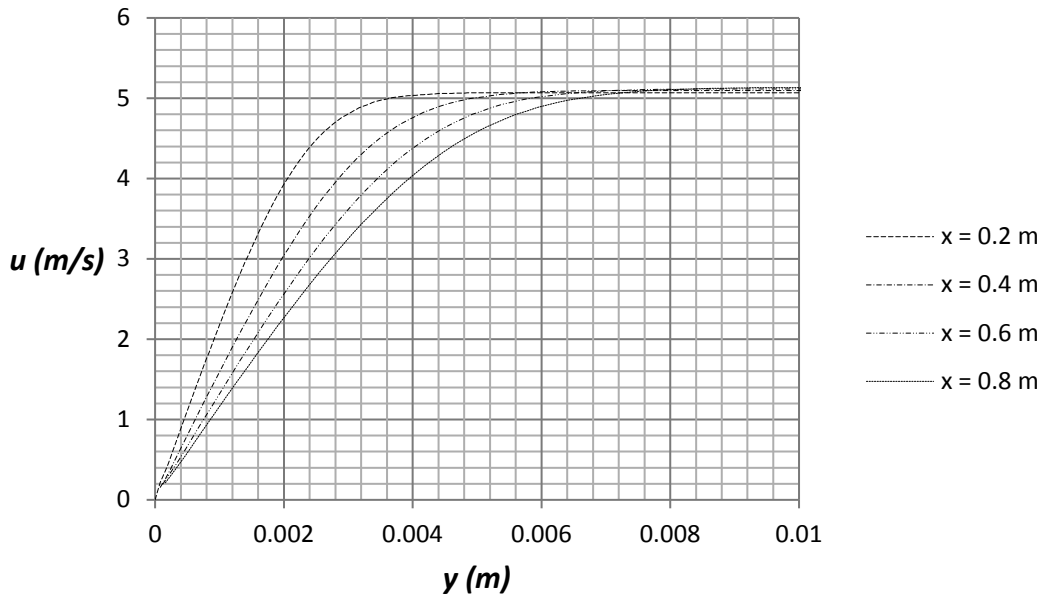
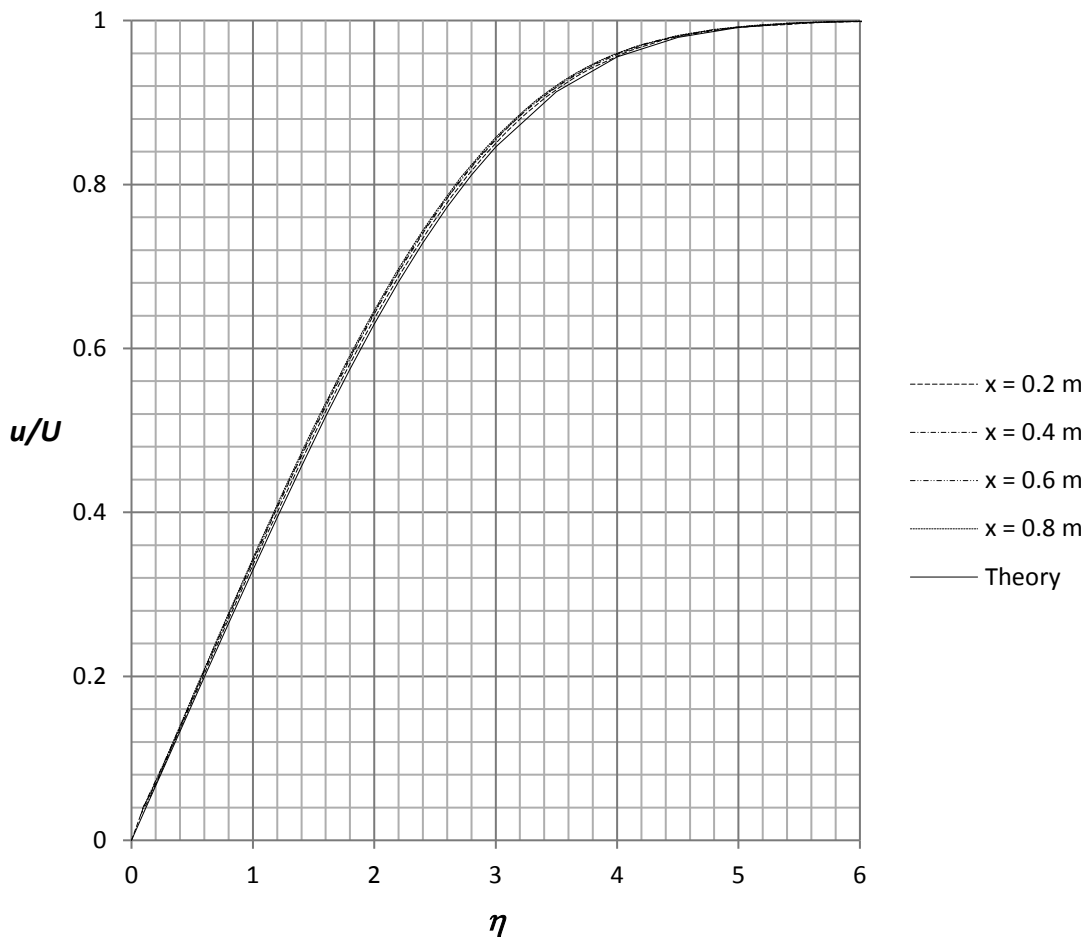

Figure 2.24c) Boundary layer velocity profiles on a flat plate at different streamwise positions
Figure 2.25a) Velocity profiles in comparison with the theoretical Blasius profile (full line)
23. Place the file “**graph 2.24c).xlsm**” on the desktop. This file and the other exercise files are available for download at the *SDC Publications* website. Click on the **FeatureManager design tree**. Click on the sketch **x = 0.2, 0.4, 0.6, 0.8 m**. Click on the  **Flow Simulation analysis tree** tab. Right click **XY Plot** and select **Insert...**. Check the **Velocity (X)** box. Open the **Resolution** portion of the **XY Plot** window and slide the **Geometry Resolution** as far as it goes to the right. Click on the **Evenly Distribute Output Points** button and increase the number of points to **500**. Open the **Options** portion and check the **Display boundary layer** box. Select the “**Excel Workbook (\*.xlsx)**” from the drop-down menu. Click **Export to Excel** to create the **XY Plot** window. An **Excel** file will open with a graph of the velocity in the boundary layer at different streamwise positions.
- Select **Module1** in the **Modules** folder under **VBAProject (graph 2.24c).xlsm**. Select **Run>>Run Macro** from the menu of the **MVB for Applications** window. Click on the **Run** button in the **Macros** window. Figure 2.24c) will become available in **Excel** showing the streamwise velocity component  $u$  ( $m/s$ ) versus wall normal coordinate  $y$  ( $m$ ). Close the **XY Plot** window and the **graph 2.24c)** window in **Excel**. Exit the **XY Plot** window in **SOLIDWORKS Flow Simulation** and rename the inserted xy-plot in the **Flow Simulation analysis tree** to **Laminar Velocity Boundary Layer**.
Place the file “**graph 2.25a**” on the desktop. Repeat step 24 to plot Figure 2.25a). Rename the xy-plot to **Comparison with Blasius Profile**.
We see in figure 2.25a) that all profiles at different streamwise positions collapse on the same Blasius curve when we use the boundary layer similarity coordinate.
From the data of figure 2.24c) we can see that the thickness of the laminar boundary layer is close to 3.80 mm at  $Re_x = 66,874$  corresponding to  $x = 0.2$  m. The free stream velocity at  $x = 0.2$  m is  $U = 5.069$  m/s, see figure 2.22c) for list of goals in solver window, and 99% of this value is  $U_\delta = 5.019$  m/s. The boundary layer thickness  $\delta = 3.83$  mm from Flow Simulation was found by finding the  $y$  position corresponding to the  $U_\delta$  velocity. This value for  $\delta$  at  $x = 0.2$  m and corresponding values further downstream at different  $x$  locations are available in the Plot Data for Figure 2.25a). The different values of the boundary layer thickness can be compared with values obtained using equation (2.3). In Table 2.1 are comparisons shown between boundary layer thickness from Flow Simulation and theory corresponding to the four different Reynolds numbers shown in figure 2.24c). The Reynolds number varies between  $Re_x = 66,874$  at  $x = 0.2$  m and  $Re_x = 270,894$  at  $x = 0.8$  m.